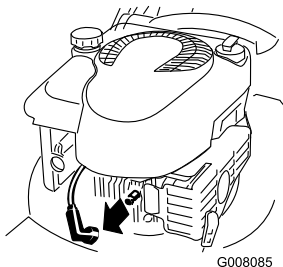

Figure 20
2. Disconnect the spark plug lead from the spark plug (Figure 20) before performing any maintenance procedure.